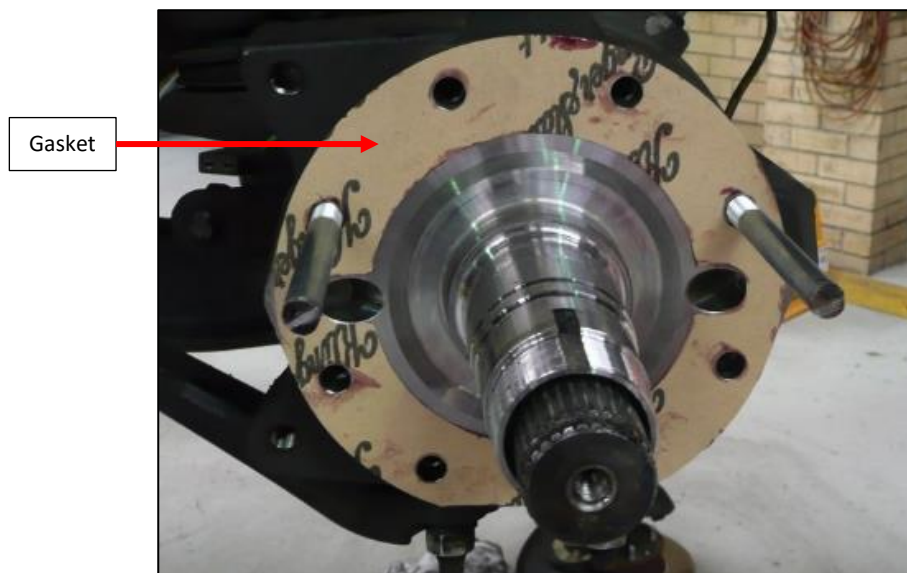

Fig. 34
8. Install the gasket with the cork filler fitted into the drain slot. See Fig. 34